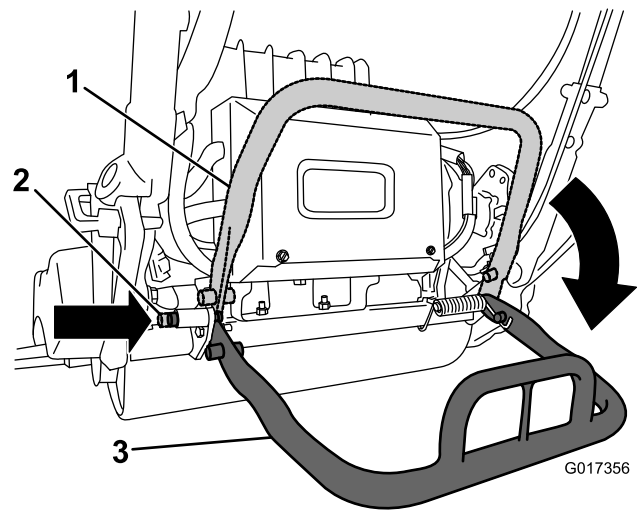

Figure 6
2. Lower the kick stand and push in the locking pin to lock the kick stand in the service position (Figure 6).